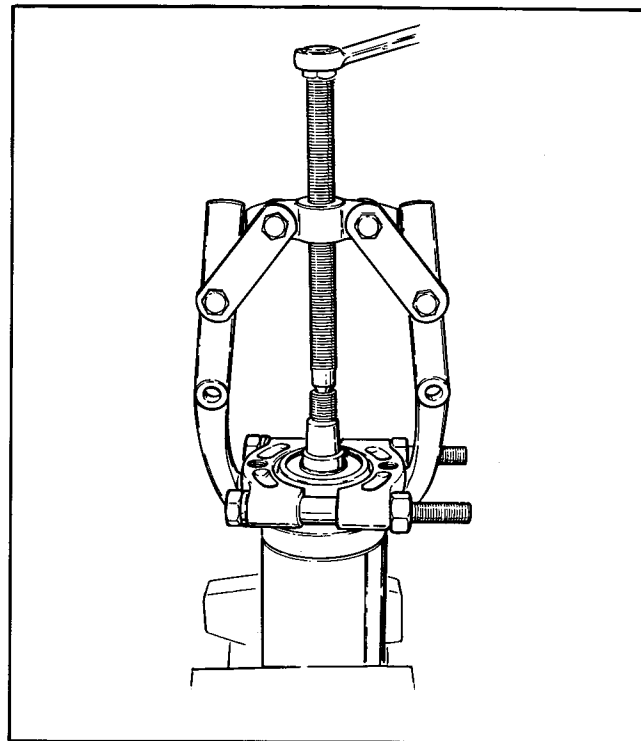

Figure 10-11 – Removing Armature Bearings
- e. To separate commutator bearing (19) or drive end bearing (19A) and spacers (20) from armature (11), use claw puller tool and wedge attachment tool. See Figure 10-11.